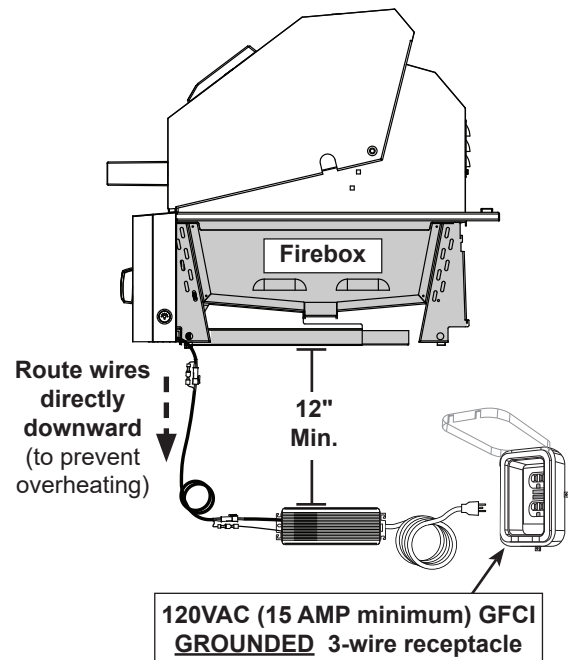

Fig. 30-1 Electrical installation
- located at least **12"** below the bottom of the unit (see Fig. 30-1)
3. Connect the power cord to a **120VAC (15 AMP minimum) GFCI GROUNDED three-wire receptacle** (see Fig. 30-1). The GFCI receptacle must be a WEATHER-PROOF IN-USE COVERED RECEPTACLE.